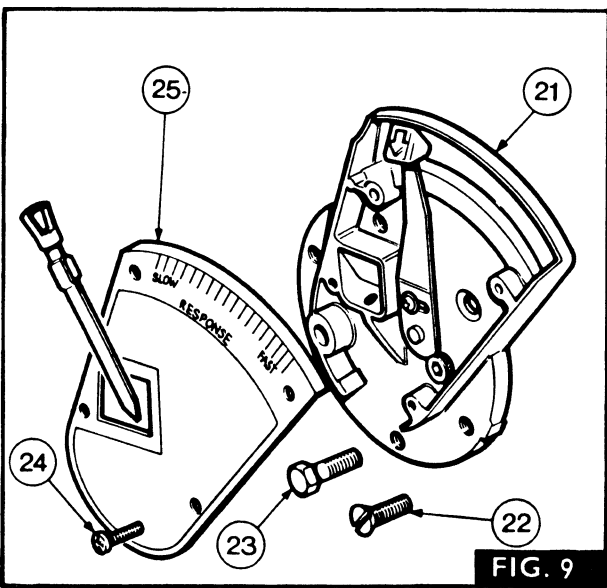

FIG. 9
12. Fig. 9. Remove the four screws (24) securing the Response Control cover plate (25) and remove the plate.
13. Remove the five bolts (23) and the screw (22) securing the side cover (21) to the centre housing, then remove the cover. (To facilitate side cover removal, it may be necessary to remove the rear footstep bracket).